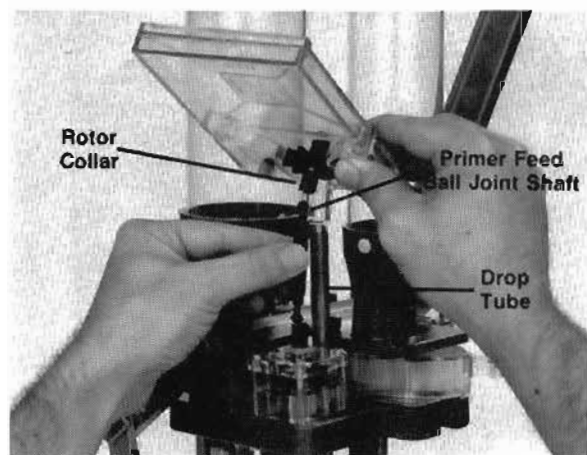

Fig. 57
**Figure 57** - Install the primer tray so the guide aligns with the slot in the drop tube. At the same time, align the Primer Feed Ball Joint Shaft to slide into the primer tray rotor collar.